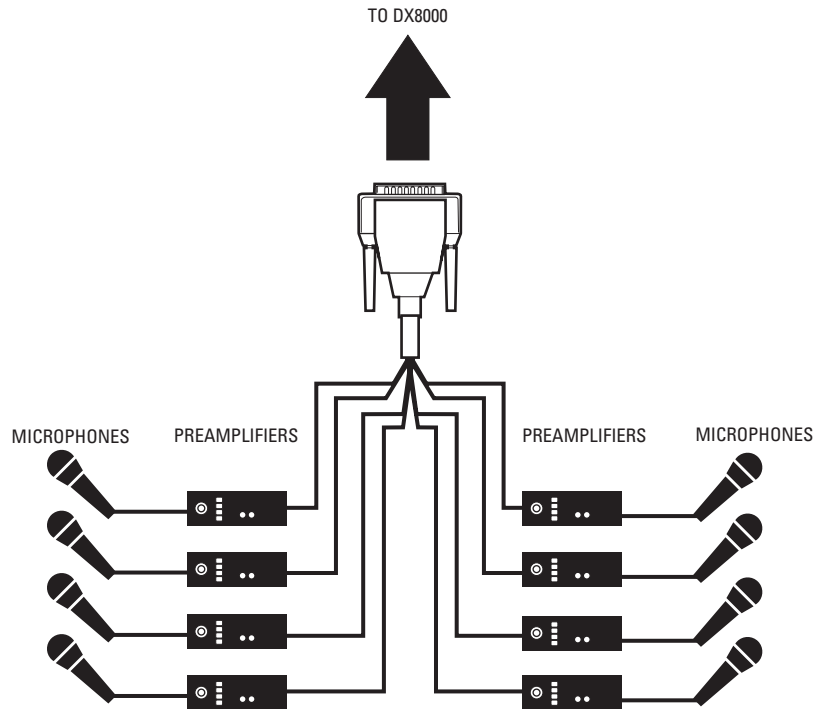

Figure 83. Audio Input Configuration Example
2. Connect each of the eight RCA-type audio connectors to a line-level (+4 dB) gain audio source. Refer to Figure 83.